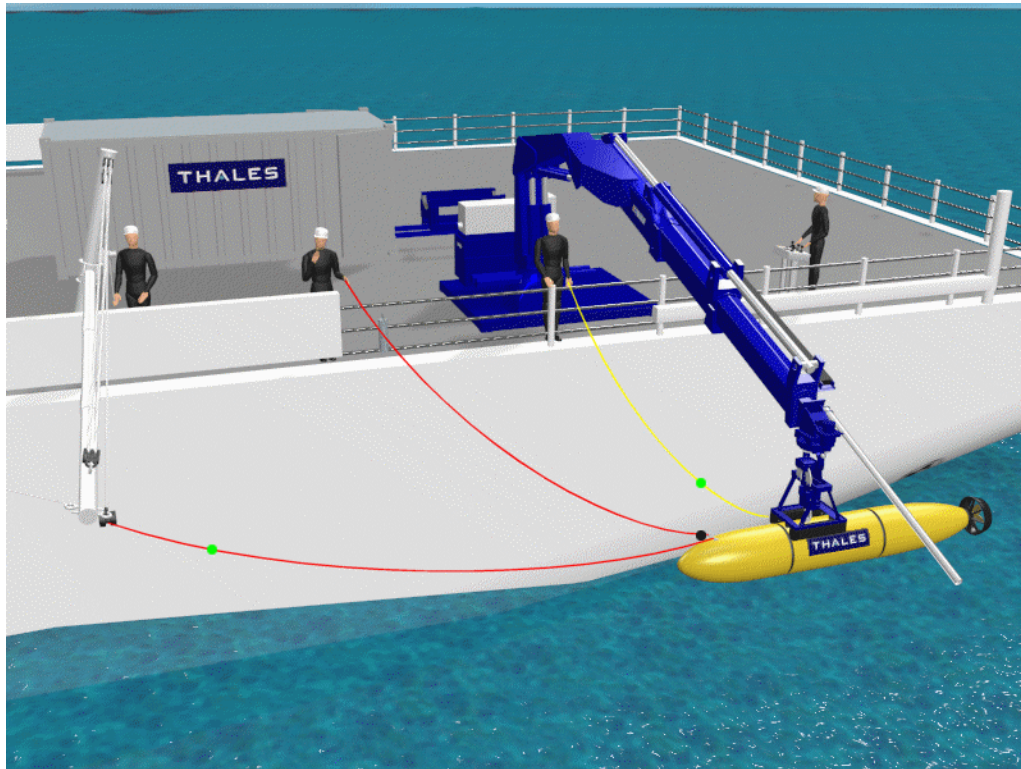

Figure 4-17
22. Slacken the tow line (Figure 4-17).